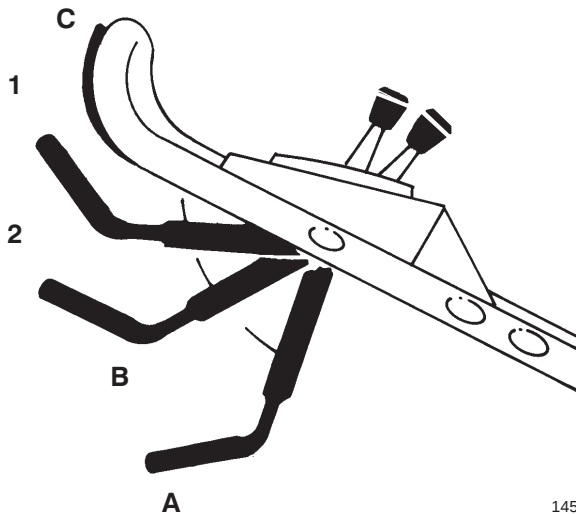

Figure 9
2. Move the control bar down to A and raise to B to engage the blade (Fig. 9).
3. Squeeze the control bar against the handle (C) to engage the traction drive (Fig. 9).
The ground speed varies depending on the space between the control bar and the handle. To disengage the traction drive but keep the blade engaged, gradually release the control bar to the middle position (Fig. 9).
Note: Do not shift speeds while squeezing the control bar against the handle in the C (drive) position (Fig. 9); this can damage the transmission. **Move the control bar to the middle position when you change the ground speed.**